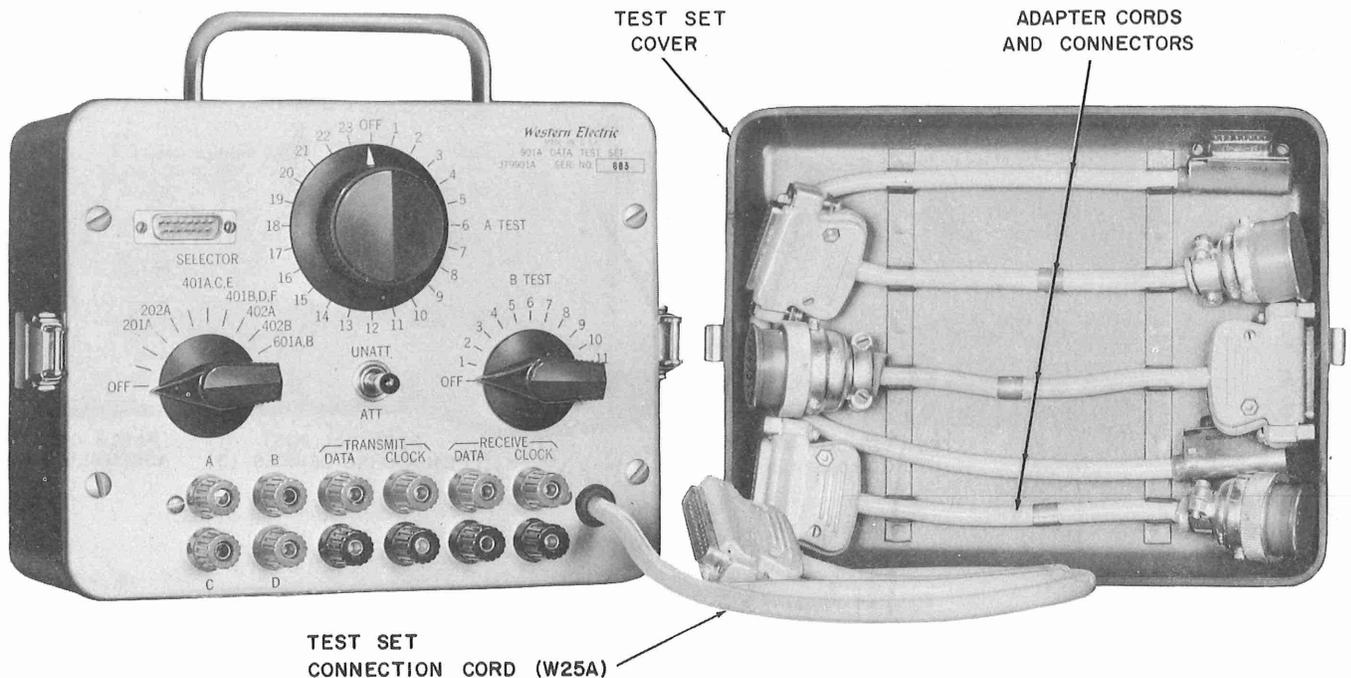

Fig. 1 — 901A Data Test Set
(Fig. 1) may be returned to the distributing house for necessary modifications to a 901B set. The Interface Test Adapter can be obtained separately if desired by ordering a J79901B List 3 Data Test Set.
*Note:* Adapter cords and connectors (Fig. 1) must be used on some early data sets that do not have a standard type interface connector. These data sets and the adapter cords required are listed in Table B.